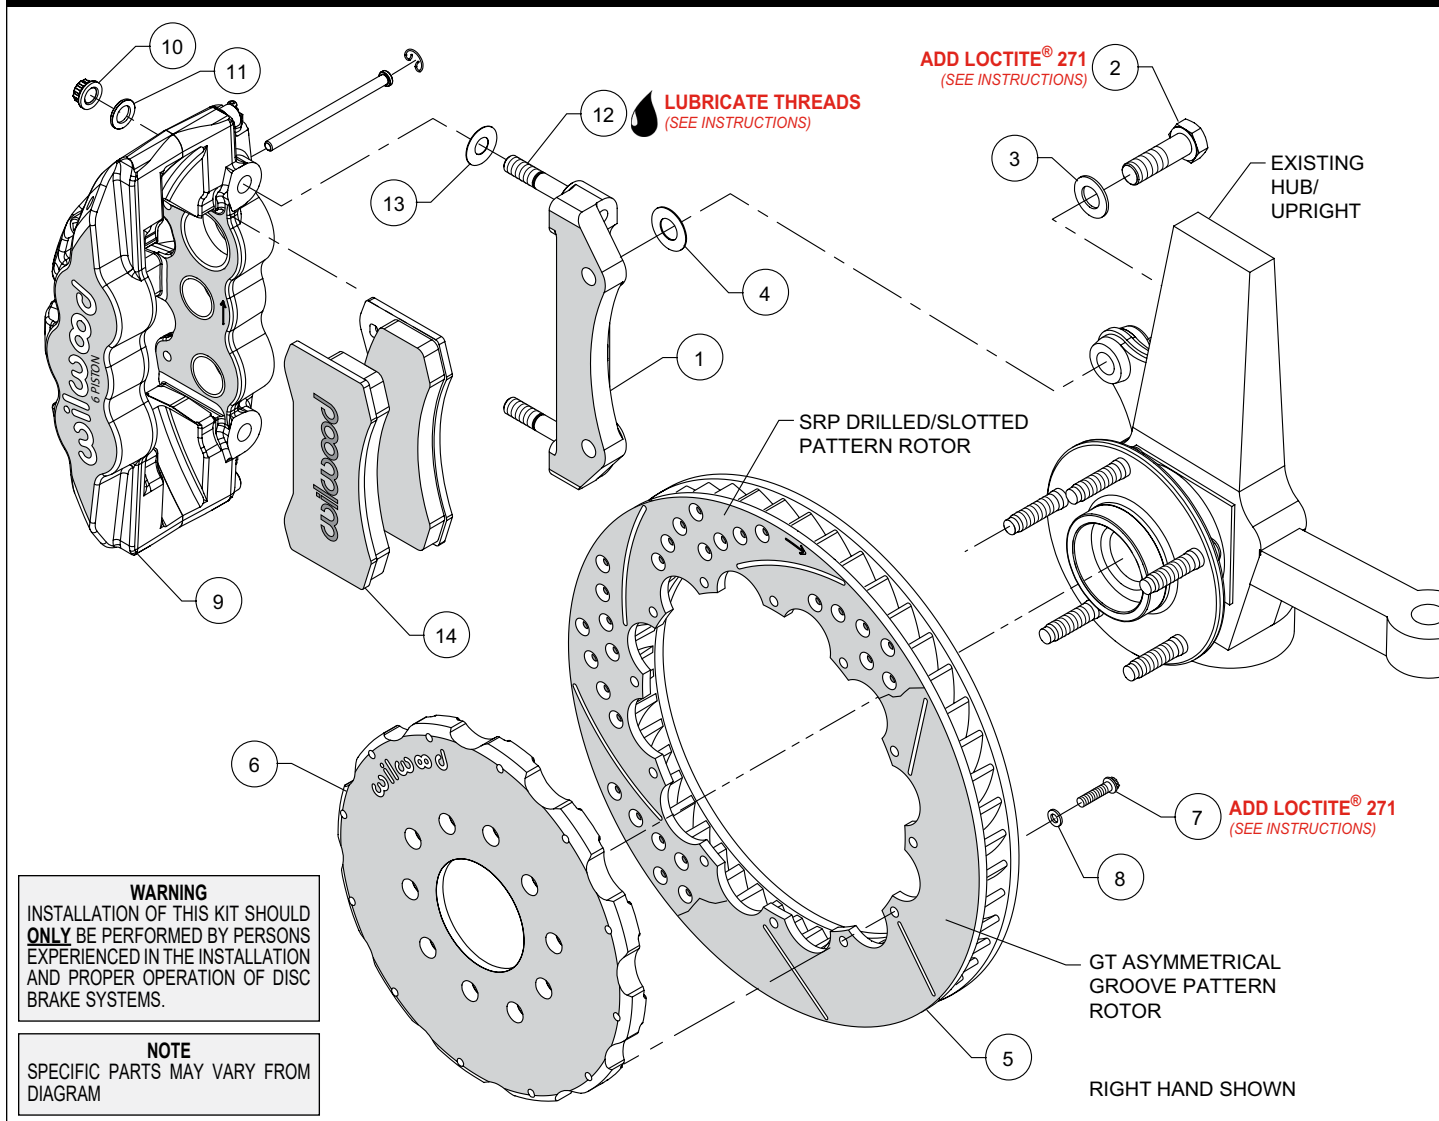
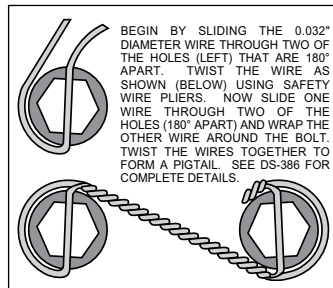

Figure 1. Typical Installation Configuration
Figure 3. Safety Wire Diagram
NOTE: Numbers in parenthesis refer to the parts list and Figure 1 on the preceding pages.
- The caliper mount bracket (1) should initially be installed with clean, dry threads on the mounting bolts. Orient the bracket, as shown in Figure 1 and Photo 1, and install using bolts (2) and washers (3). Initially place one .029" thick shim (4) on each bolt between the bracket and upright, Figure 1. Temporarily tighten the mounting bolts. **NOTE:** The bracket must fit squarely against the mount bosses on the upright. Inspect for interference from casting irregularities, machining ridges, burrs, etc. Later, after the caliper alignment has been checked, the mount bolts will be secured using red *Loctite*® 271.
- Orient the rotor (5) and the hat (6) as shown in Figure 1 and Photo 2. Attach rotor to hat using bolts (7) and washers (8). Apply red *Loctite*® 271 to the bolt threads and torque to 155 **in-lb** using a criss-cross pattern. For an added measure of security, the bolts may be safety wired using standard 0.032 inch diameter stainless steel safety wire as shown in Figure 3. Refer to Wilwood's data sheet DS-386 (available at www.wilwood.com/Pdf/DataSheets/ds386.pdf) for complete safety wire installation instructions.
- **NOTE:** This kit contains distinct right and left hand calipers that must be mounted in a specific direction, as described below. Lubricate the caliper mounting studs (12) with lightweight oil. Initially place one .030" thick shim (13) on each stud between the caliper and the bracket, as shown in Figure 1 and Photo 4. Mount the caliper (9) onto the bracket (1) using lock nuts (10) and washers (11), Figure 1. Temporarily tighten the lock nuts. Ensure that the caliper is mounted so the largest pistons are at the rotor exit end of the caliper, in relation to the direction of the rotor. View the rotor through the top opening of the caliper. The rotor should be centered in the caliper, Photo 5. If not, adjust by adding or subtracting shims (4) between the bracket and the upright. Always use the same amount of shims on each of the two mounting bolts. Once the caliper alignment is correct, remove the bracket mounting bolts one at a time, apply red *Loctite*® 271 to the threads, and torque to 77 ft-lbs.
- Remove the caliper (9), then remove the two pad retaining pins from the caliper by carefully popping out the pin retaining clips and sliding out the pins. Insert the brake pads (14) into the caliper from the bottom, Figure 1 and Photo 6. With the friction material facing the rotor, secure the brake pads in place with the pad retaining pins and clips, Photo 7. Reinstall the caliper onto the caliper mounting bracket and temporarily tighten the lock nuts. Check that the top of the brake pad is flush with the outside diameter of the rotor, Photo 8. If not,